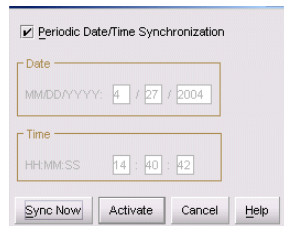

Figure 41: Configure Date and Time dialog box
1. Click **Configure > Date/Time**. The Configure Date and Time dialog box displays, as shown in Figure 41.